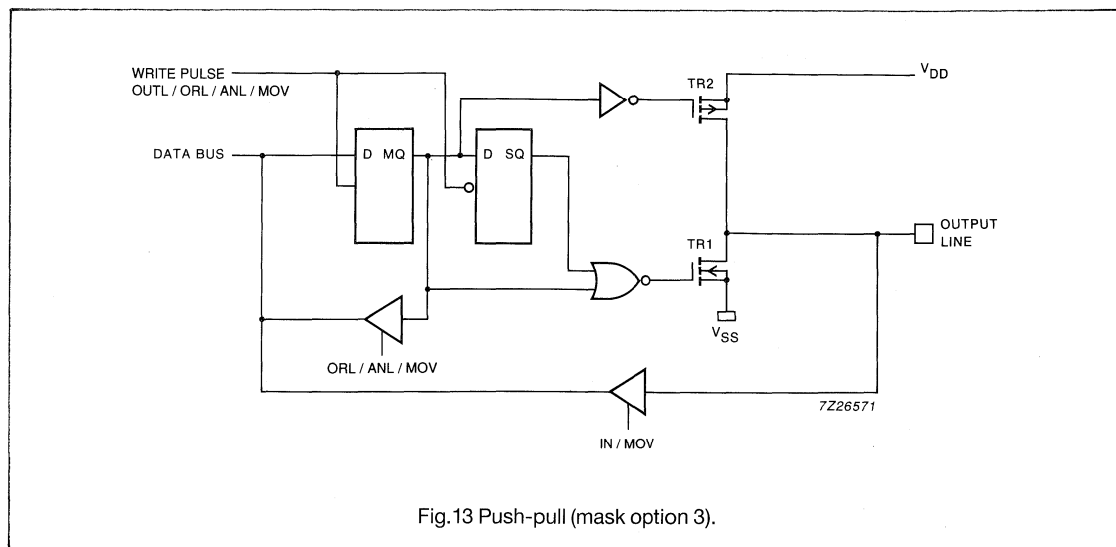

Fig. 13 Push-pull (mask option 3).
- Option 3 Push-Pull: outputs can sink or source 2 mA (typ.) at VDD = 3 V. Push-pull lines may not be used as inputs (Fig. 13).